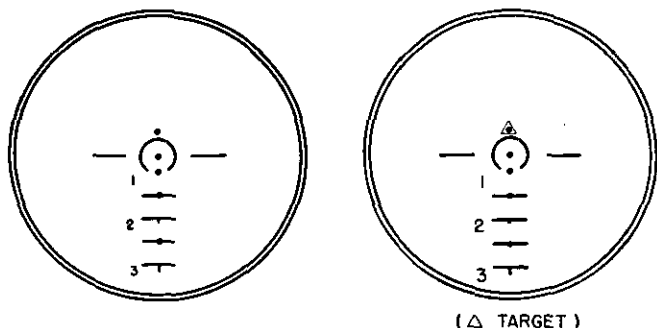

FIGURE 55.
5. You are adjusting your sight, using the target shown in figure 55. Mark in the sight picture where the target will appear when the gun and sight are correctly adjusted.